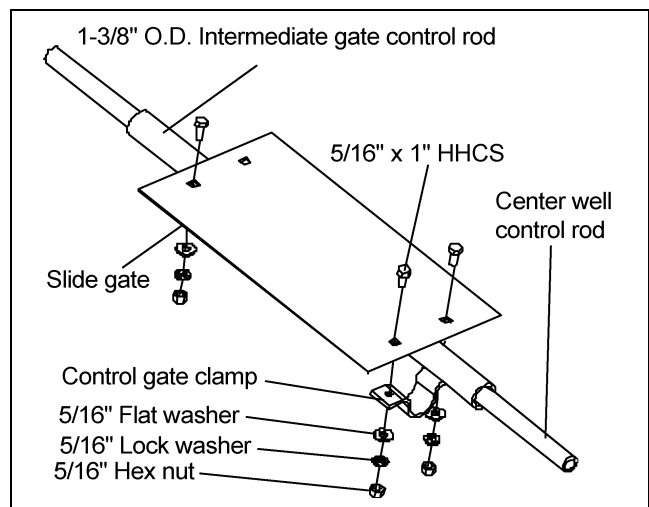

Figure 3K Intermediate Well Gate
4. Fasten the control gate clamp to the control gate and control pipe. Secure in place by using two (2) 5/16" x 1" long (grade 5) hex head capscrews, flat washers, lock washers, and nuts. (See Figure 3K.)